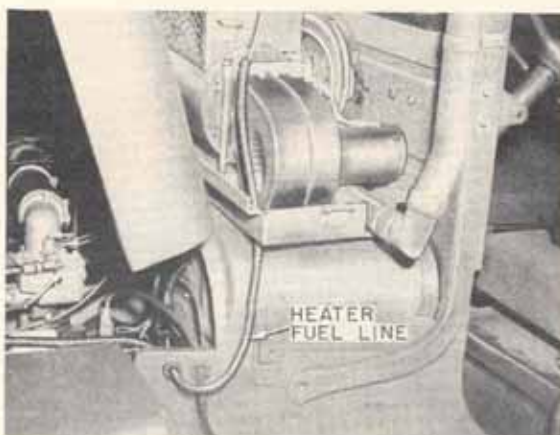

Figure 3
the two hold-down clamps (Figure 3). Make sure the exhaust gaskets are in place around the heater exhaust outlet. Do not place the lid on the heater box as yet.
1. Connect the flexible fuel line, which is attached to the base of the heater box, to the inlet of the heater fuel control valve (Figure 3).
2. Connect the loom-covered copper tubing to the flare fitting at the end of the flexible fuel line underneath the heater box and to the elbow in the outlet of the heater safety valve. On a soft-top vehicle, it will be necessary to drill a $\frac{7}{8}$ -inch hole in the side of the body located on the same level and $1\frac{1}{2}$ inches forward from the hole for the vehicle's windshield wiper hose just below the heater. On the hard-top vehicle, the windshield wiper hose is located in a different position and the hole already drilled in the body for the hose may be used for the fuel line, eliminating the need to drill a new hole. The fuel line is equipped with a grommet which must be fitted into the hole to prevent chafing (see Figure 3).
- Fit the exhaust elbow onto the tube which extends from the heater box. Adjust this elbow with the vertical exhaust tube held in position so that a proper fit will be obtained (Figure 3).